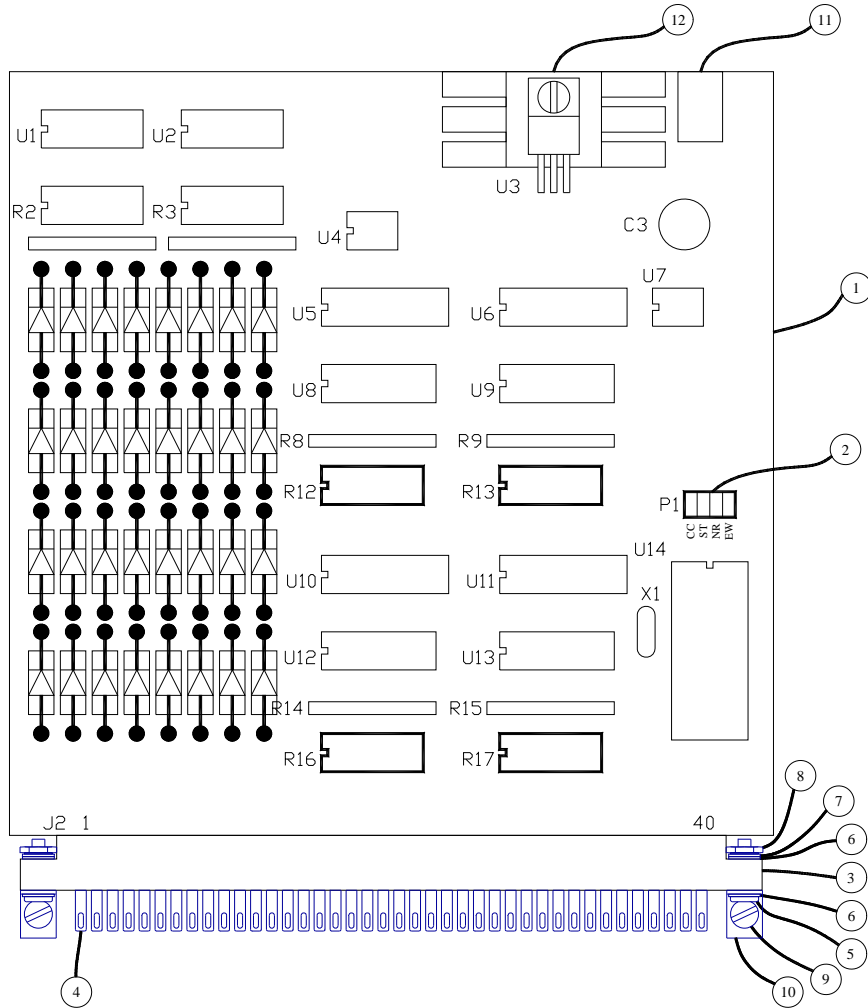

Figure 6-3 BD16 Board Assembly Diagram
Figure 6-3 BD16 Board Assembly Diagram below shows how your BD16 and related items will look when ready for installation. For your reference, the major items are identified individually. Other than the mode plug and its jumpers (item 2), the voltage regulator and heat sink (item 12), and the DC power input jack (item 11), and the output resistor packs (items R12, R13, R16 and R17), none of the parts are of interest to you. There are no adjustable components on the board.
The four self-test modes are used to help you with the installation of your BD16, and to assist you in trouble shooting should any problems develop in the future. To place the BD16 board into the self-test mode of operation, you must disconnect its power. You can do this by simply unplugging the power supply from its socket on the board. Plug a jumper plug onto the two pins labeled “ST”, for self-test. These are shown as item 2 in Figure 6-3.